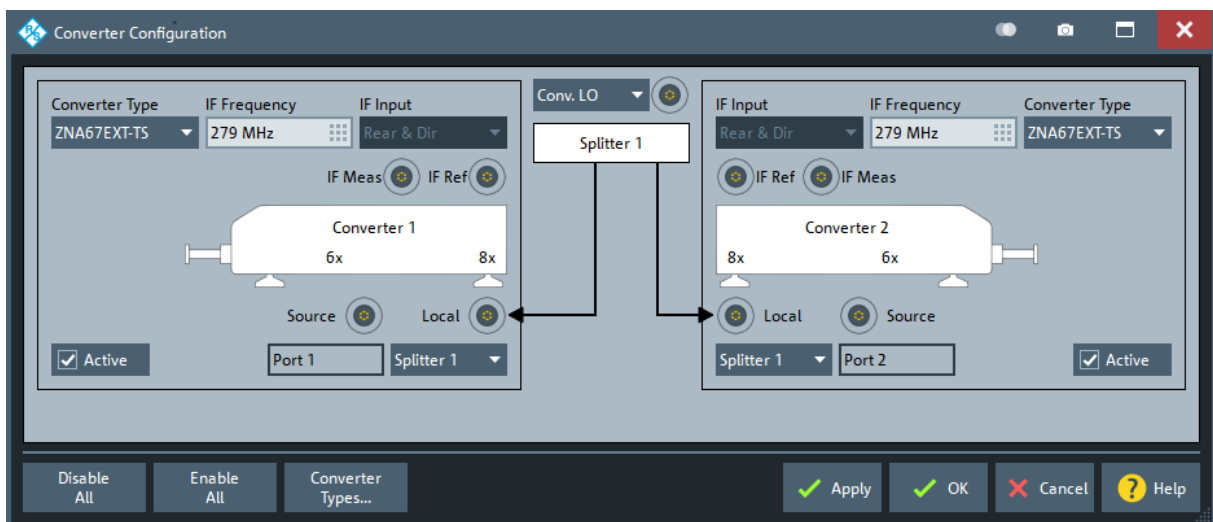

Figure 9-1: Standard setup with two external test sets
- For pulsed signals, the default IF frequency of 279 MHz cannot be used, because a narrow-band filter is applied at this frequency. Use the "Converter Configuration" dialog to select an IF frequency in the direct path between 30 kHz and 30 MHz instead (see Figure 9-1).